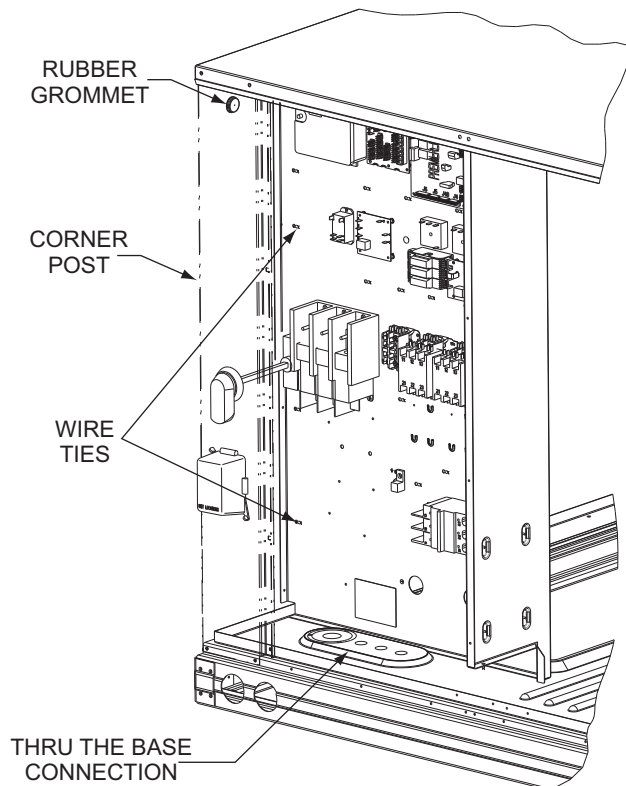

Fig. 36 — Field Control Wiring Raceway
Correctly rated low voltage wire can be routed through the rubber grommet located on the corner post adjacent to the control box access panel. Route wire through the grommet and then route the wire behind the corner post utilizing the factory provided wire ties secured to the control box. This will ensure separation of the field low voltage wire and the high voltage circuit. Route the low voltage wire to the central terminal board. See Fig. 36.
2. Feed wires through the raceway built into the corner post (see Fig. 36) to the 24-v barrier located on the left side of the control box. The raceway provides the UL-required clearance between high-voltage and low-voltage wiring.